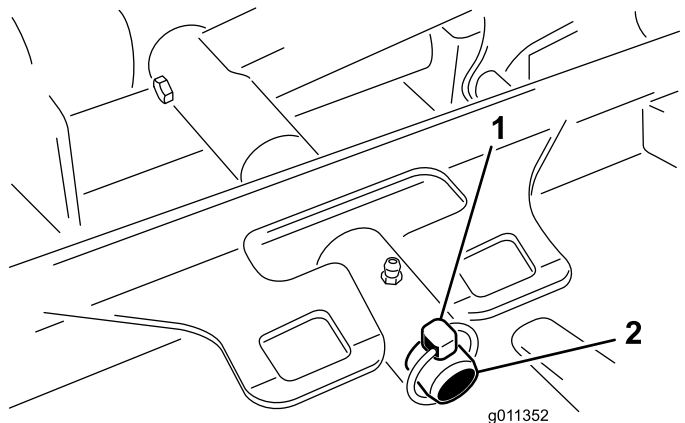

Figure 65
3. Remove the lynch pin or retaining nut (GM 4700 only) securing the deck carrier frame to the lift arm pivot pin (Figure 65).
3. Slide deck carrier frame onto lift arm pivot pin. Secure with lynch pin or retaining nut (GM 4700 only) (Figure 65).